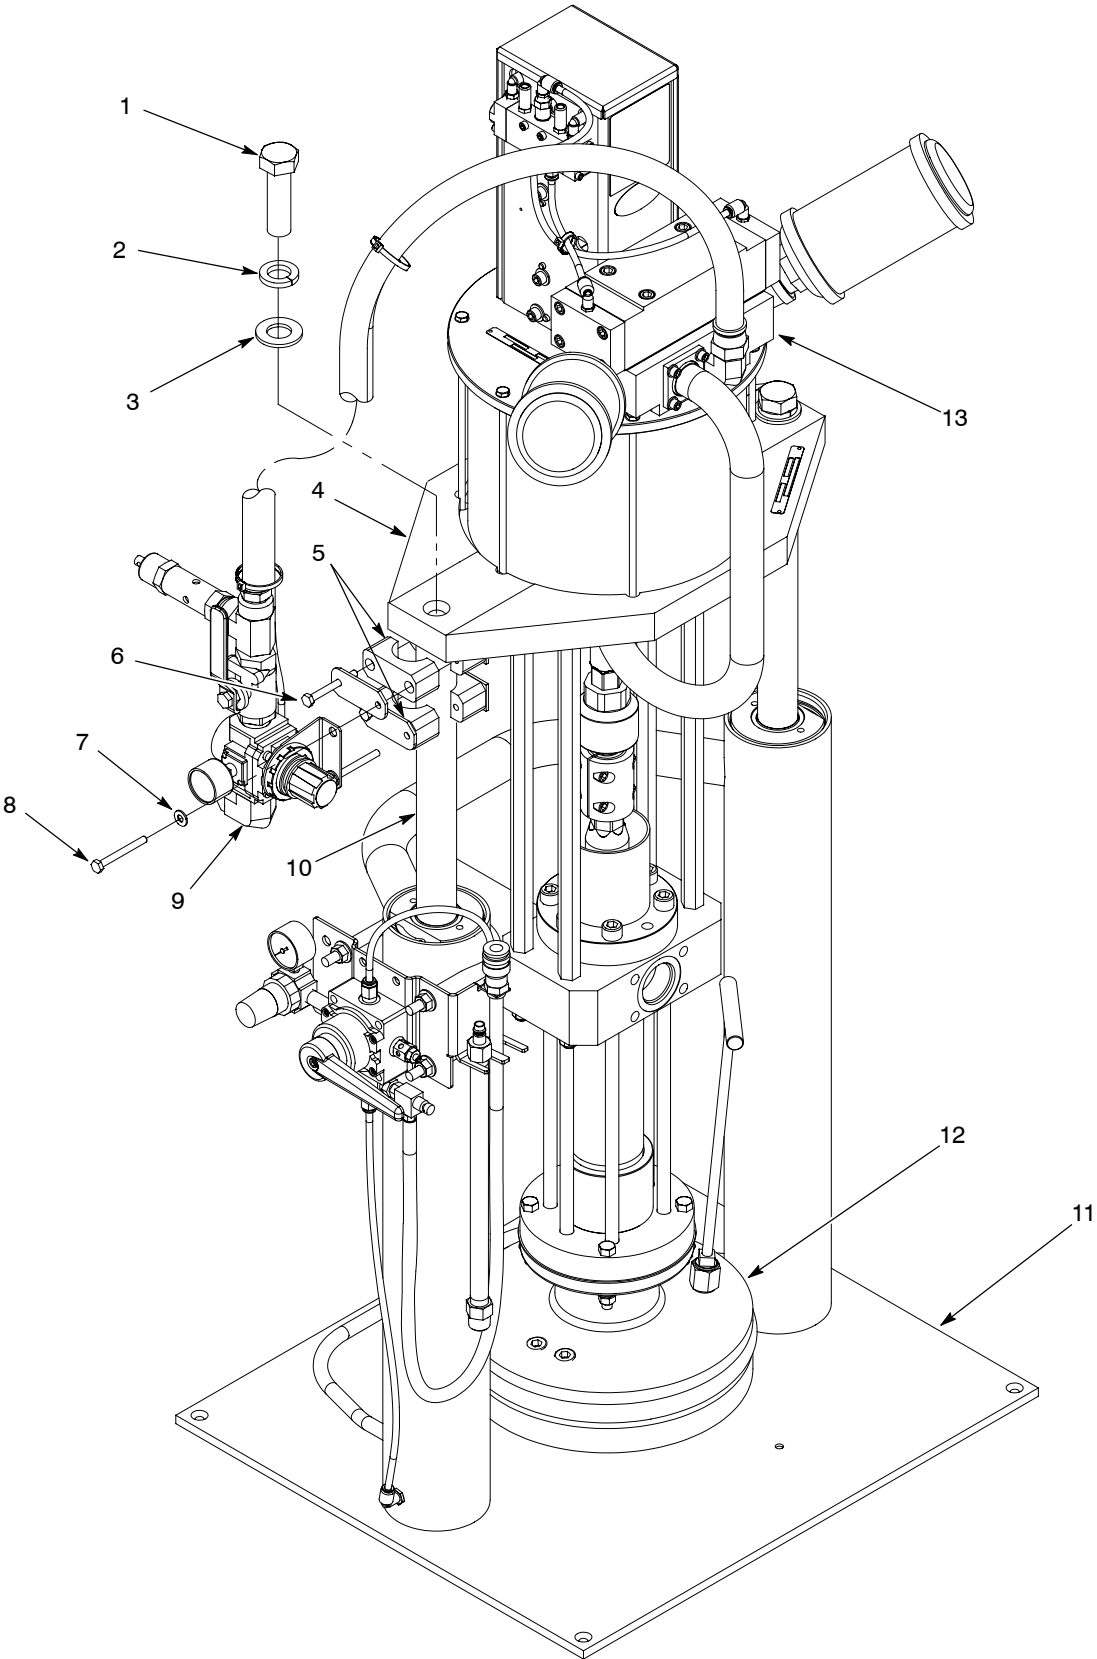

Figure 4 Removing the Pump Assembly
1. See Figure 4. Lower the follower plate (12) to the base of the small frame (11).
2. Verify that all pressure is bled from the air cylinder pistons. Disconnect the supply air hose from the air regulator (9).
3. Remove the screws (8) and washers (7) securing the air regulator (9) to the clamps (5).
4. Remove the screws (6) securing the clamps (5) to the cylinder shaft (10).
5. Remove the screws (1), lock washers (2), and flat washers (3) securing the base plate (4) to the cylinder shafts (10).
1. See Figure 4. Install the pump assembly (13) onto the small frame (11).
2. Apply Loctite 242 to the threads of the screws (1). Secure the base plate (4) to the cylinder shafts (10) using the screws, lock washers (2), and flat washers (3). Tighten the screws to 190–195 ft-lb (258–264 N•m).
3. Install the clamps (5) onto the cylinder shaft (10) using the screws (6). Tighten the screws securely.
4. Install the air regulator (9) to the clamps (5) using the washers (7) and screws (8). Tighten the screws securely.
5. Connect the supply air hose to the air regulator (9).